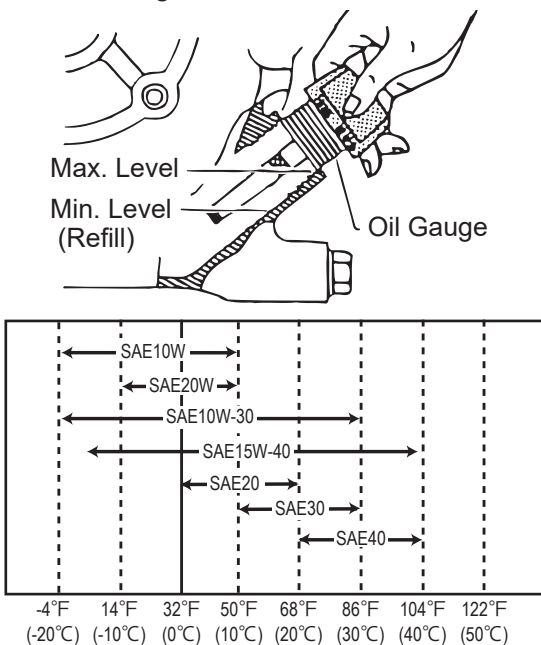

Fig. 1
- Level the engine and check oil level with oil gauge. (Fig.1)